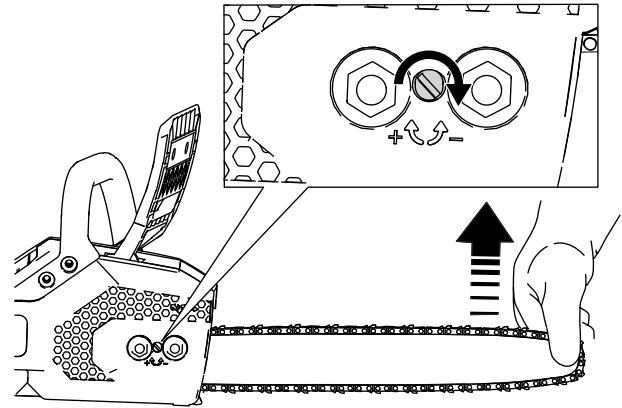

Figure 30
6. Hold up the tip of the guide bar (Figure 30).
- **To tighten the chain**, turn the chain tensioning screw clockwise (Figure 30).